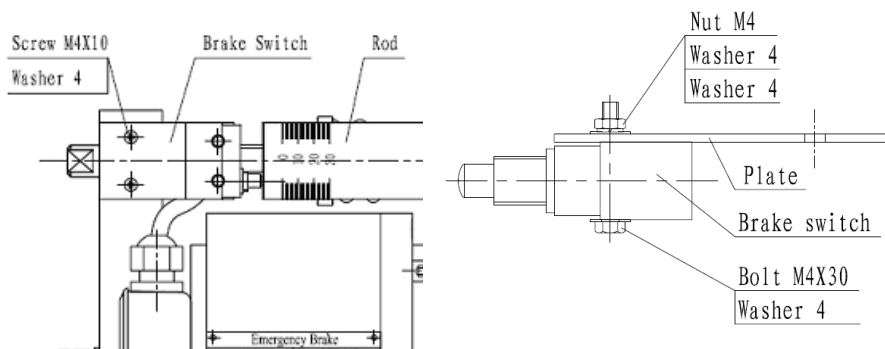

Figure 24 Emergency Brake Switch Replacement
3. Remove the two (2) Screws M4X10 and then remove the Brake switch with plate. See Figure 24.
4. Remove the two (2) bolts M4X30, Nuts M4, washers 4 and lockwashers 4 and then remove the brake switch.